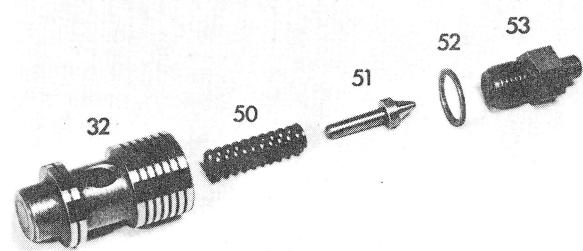

Fig. 11
Attention! Always use the same washers which were installed before (Fig. 11).
13 Clamp volume control valve (32) with its underground end into vise, screw-in valve screw (53) and tighten (Fig. 11).